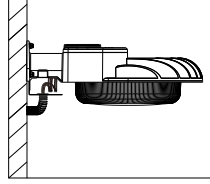

Figure 8
5. Thread the cable to the hole on the cover plate, tighten the conduit tube, and complete the wiring (Figure 8);